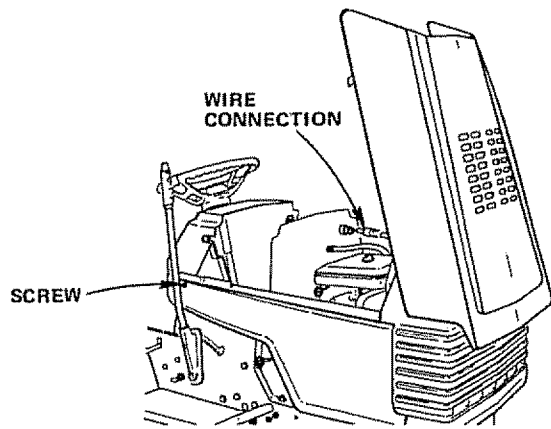

FIGURE 58
- Lift Hood. Disconnect Headlight Wiring Connection (Fig. 58).
- Unscrew one Screw at rear of each Side Panel (Fig. 58).